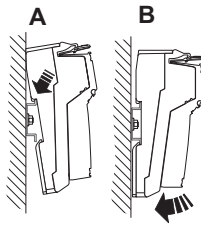

Figure 10-17 Snapping on the base
- Place the base onto the DIN rail from above (Figure 10-17, A) and press down firmly (B).